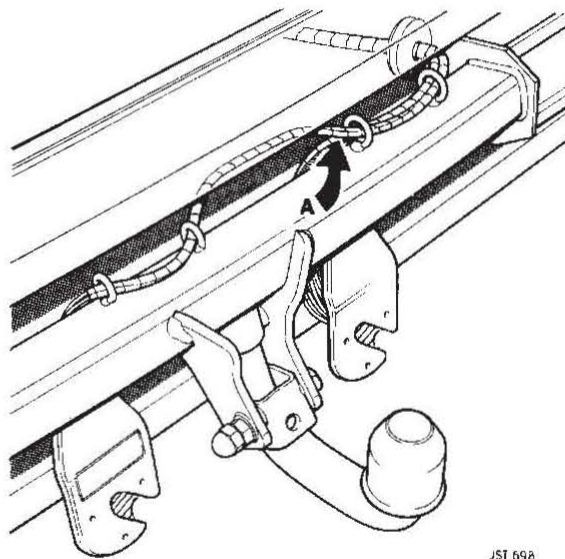

FIG 2
- 1) Should the lead lengths to the 12N and 12S connectors prove to be too short, increase the twin lead separation length by cutting back 50 to 80 mm (2 to 3 in) of joining tape from point 'A' Fig.2.
- 2) Alternatively, modify the existing connector mounting plates by extending each slot (maintaining the existing width) to the centre point triangulated from the three screw holes (Fig.2 - cut away sections shown shaded).